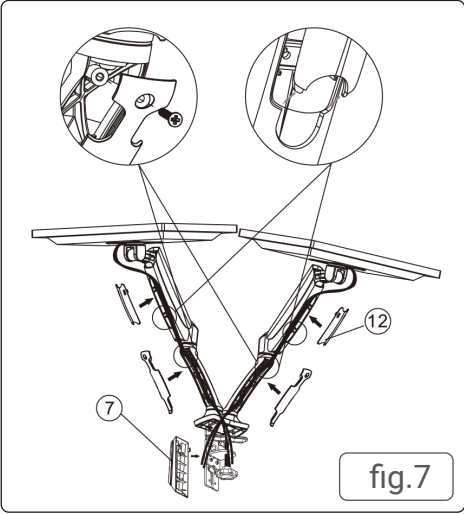

fig.7
- To remove the cable tidy from the lower arm remove the screw (fig.7).